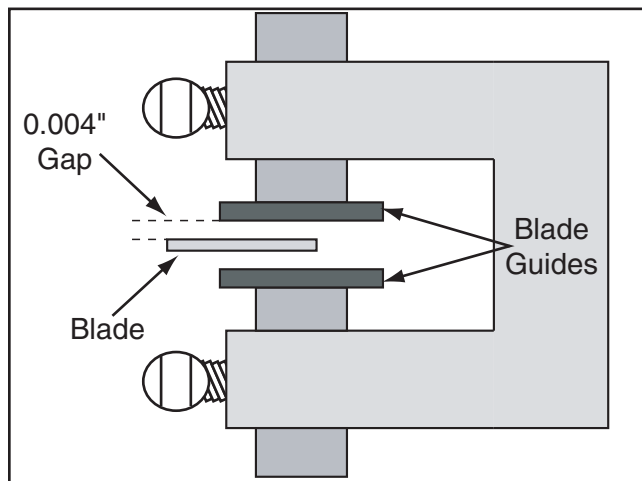

Figure 50. Correct gap between guide guides and blade.
3. By hand, adjust the distance of the guides approximately 0.004" from the sides of the blades (see **Figure 50**), then re-tighten the thumb screws to secure the setting.